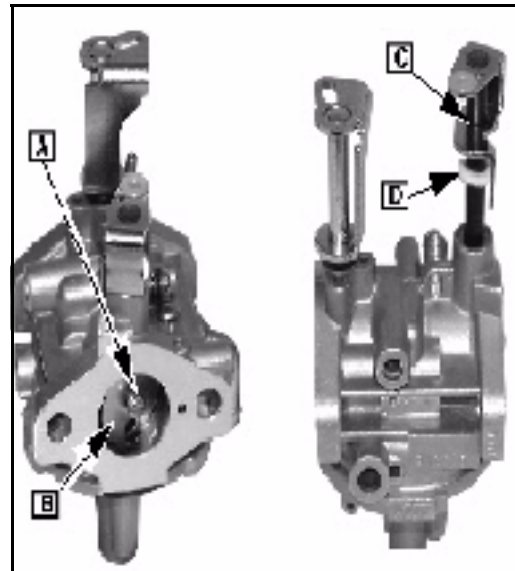

Fig. 112
6. Remove screw ([A] Fig. 112).
7. Remove, throttle plate (B), throttle shaft (C) and seal ([D] Fig. 112).